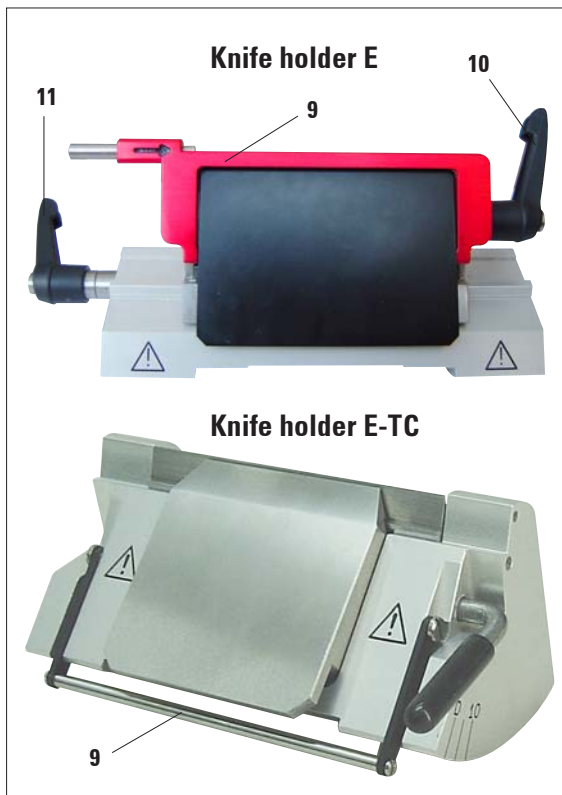

Fig. 5
The knife guard on knife holder E/E-TC consists of a red foldaway handle (9). To cover the cutting edge, fold the knife guard handle (9) upwards as illustrated in Fig. 5.